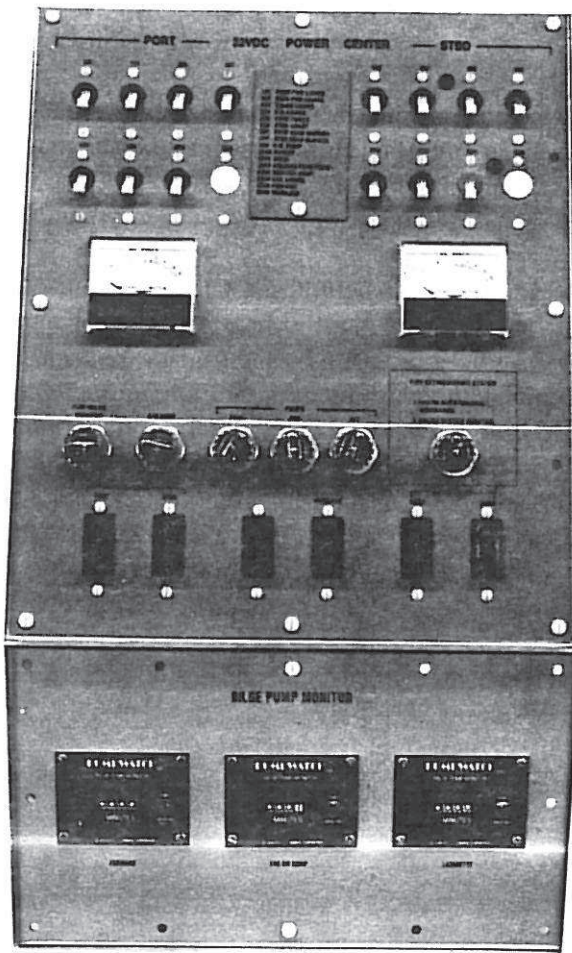

Figure 8 - Salon 32Vdc Distribution Center
There are three (3) bilge pump timers mounted on the bilge pump monitor panel (see Figure 8 - The Salon 32 Vdc Distribution Panel). These timers keep track of the accumulated running time of the FORWARD and LAZARETTE (aft) bilge pumps